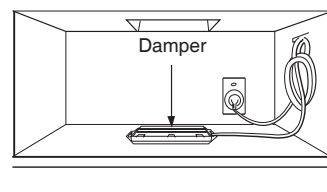

Figure 34
4. Roof venting installation: See Figure 34. Install ductwork through the vent opening in the upper cabinet. Use caulking gun to seal the exterior roof opening around the exhaust cap. See Figure 7 on page 7.